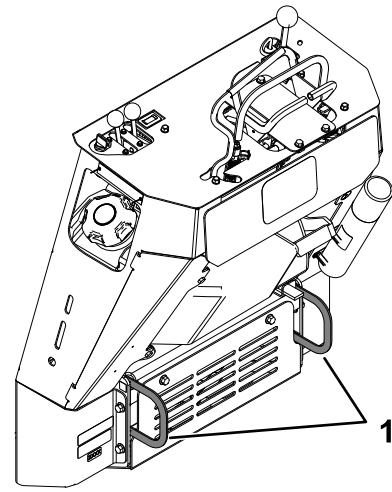
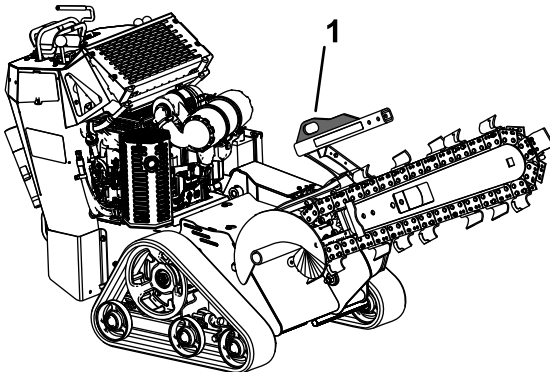

Figure 21
Figure 20
3. Secure the machine to a trailer with chains or straps using the tie-down/lift loops at the front and rear of the machine (Figure 20 and Figure 21). Refer to your local ordinances for trailer and tie-down requirements.
You can lift the machine using the tie-down/lift loops as lift points (Figure 20 and Figure 21).